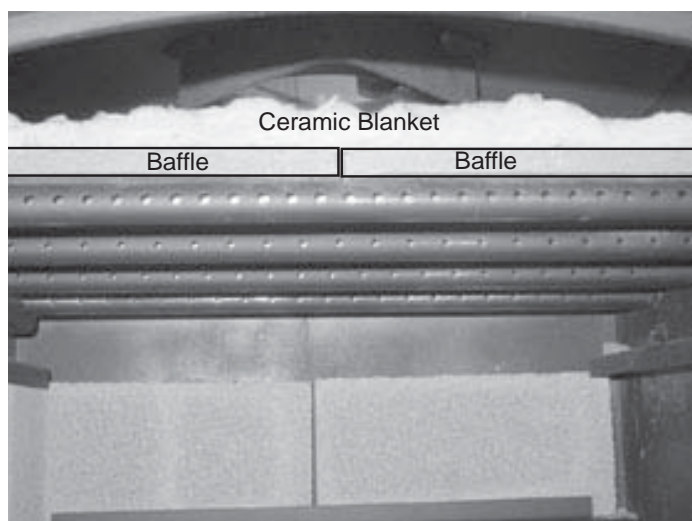

Figure 23.4
4. Re-install in reverse order. Be sure the baffle boards and ceramic blanket are in their proper positions. **Figure 23.4.**